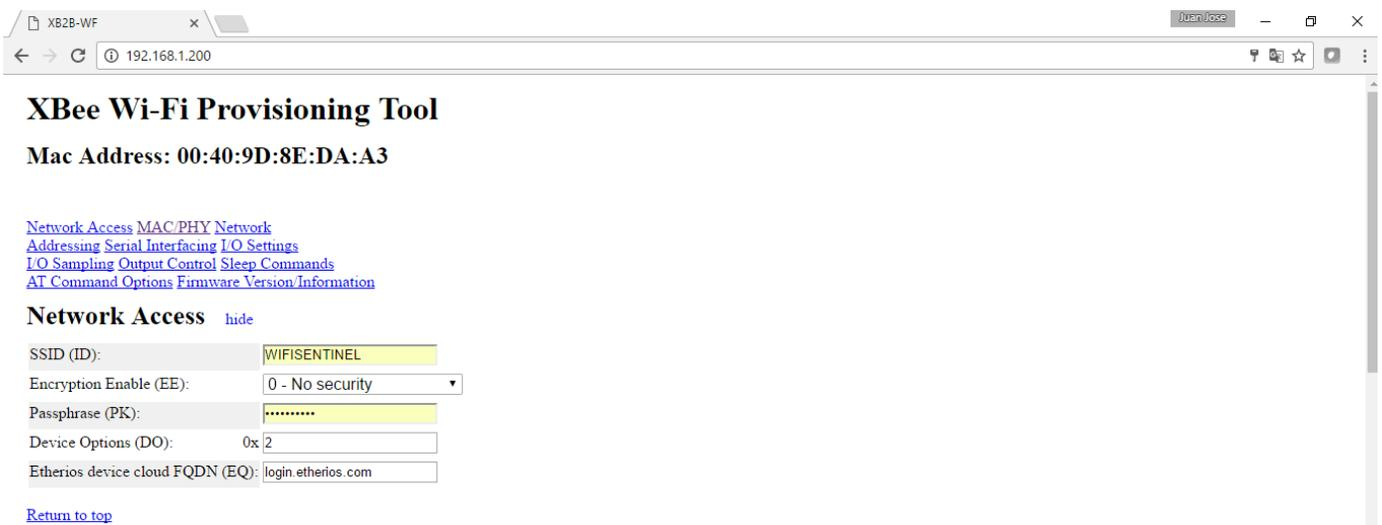

Figure 4.- WFS-1000 Radio Configuration web page
- Once connected to the Xbee-x... network, use a browser to connect to the WFS-1000 radio IP address. A web page as shown in figure 4 will be displayed.
- SSID (ID): Type the ID to the Access Point where the WFS-1000 will be connected.
- Encryption Enable (EE): Select 2- WPA2 (AES) security
- Passphrase (PK): Set the Access Point password
- In the addressing section set the: “Module IP address” (MY) to the IP address to be assigned to this radio and the “Destination IP address” (DL) to the WFS-1000 master radio IP Address. If this is the WFS-1000 master radio, then set broadcast IP address for this network (xxx.xxx.xxx.255). Set the “Source Port” (CO) to 2617 if this is the WFS-1000 master radio or to 2616 if this is a slave radio, and set the “Destination port” (DE) to 2616 if this is the master radio or to 2617 if this is the slave radio. Also configure the “IP Address of Gateway” (GW) to match the Access Point IP address where the WFS-1000 will be connected, and set the “IP Address Mask” (MK) to 255.255.255.0. Do not change any other configuration parameter.